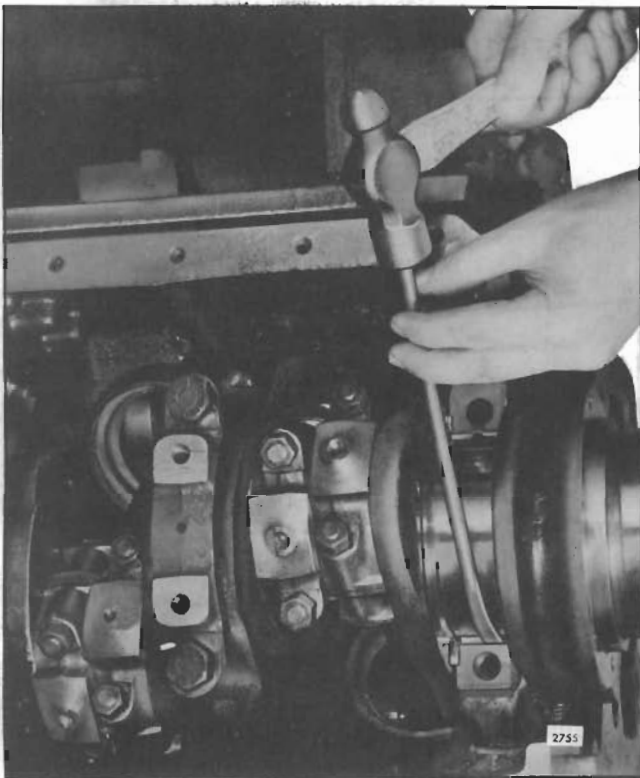

Fig. 4 - Removing Upper Rear Main Bearing Shell
- Remove the rear main bearing upper shell by tapping on the edge of the bearing with a small curved rod, revolving the crankshaft at the same time to roll the bearing shell out as shown in Fig. 4.